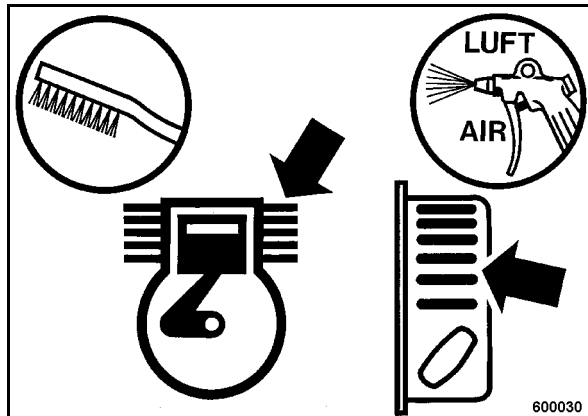

Fig. 37
- Loosen dried on dirt with a suitable brush (Fig. 37) from all cooling fins and cooling air intake openings and blow it off with compressed air.